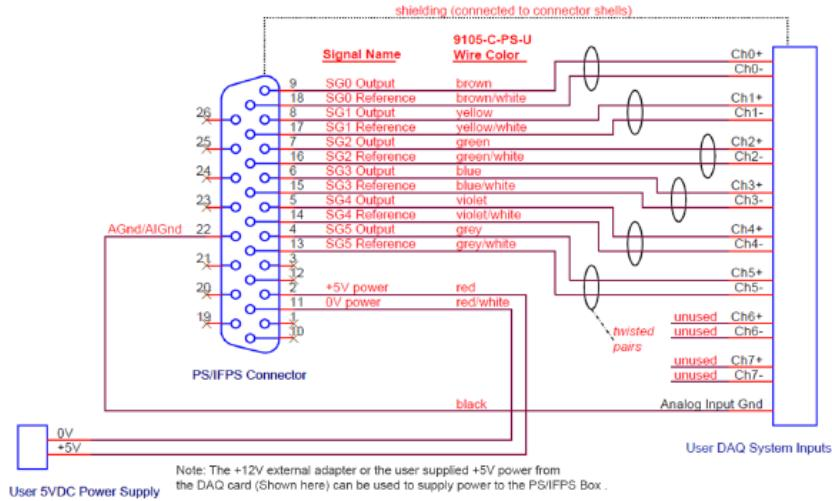

Figure 2: Differential wiring connections to data acquisition system (page 35 from 9620-05-DAQ)
- Differential connections to DAQ (Figure 2)